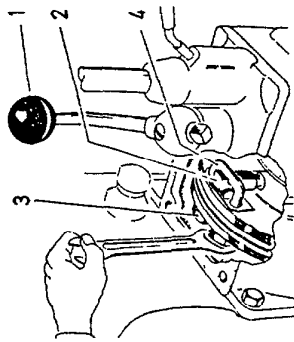
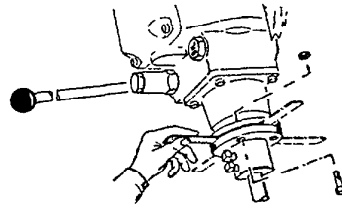

Fig 8
Fig. 9
2. If the clutch is slipping, tighten clutch clamp nuts (3) $\frac{1}{6}$ turn, through cover (fig. 8). If the reverse gearbox is slipping, check alignment of engine (fig. 9). See also page 43.